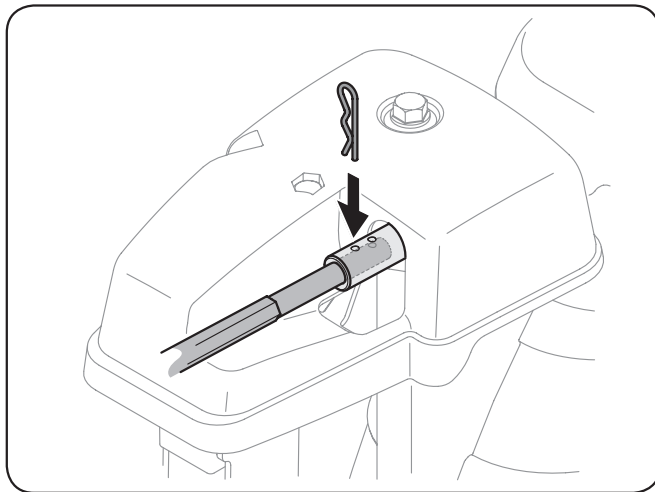

Fig. 6-7
2. Pull out the chute control rod until the hole in it lines up with the second hole in the chute control assembly. See Fig. 6-7.
3. Reinsert the cotter pin through this hole and the chute control rod. See Fig. 6-7.